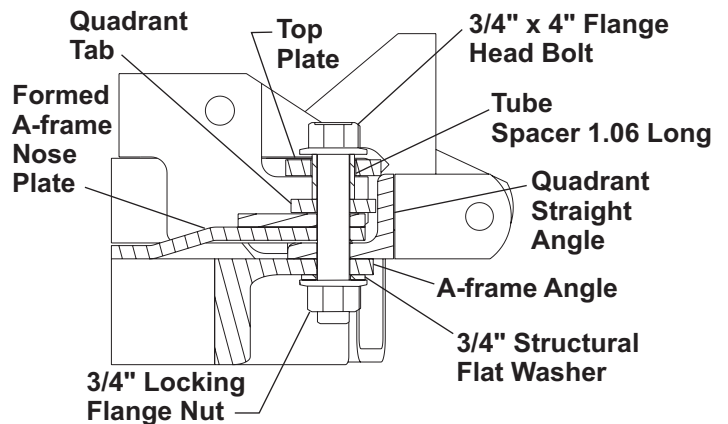

Figure 2
2. Install a 3/4" x 4" flange head bolt (pivot bolt) through 1.06 long spacer, from the top through the holes in the quadrant top plate, nose plate, quadrant angle, and A-frame angle. (See **Figure 2**.)